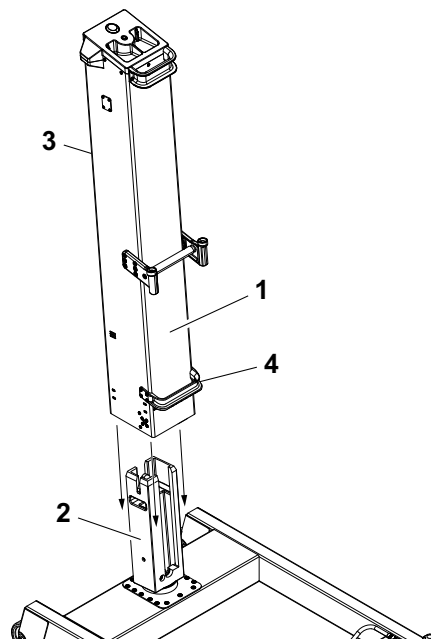

Figure 3-8. Mast to Base Installation (FT70)
4. **FT70** - (See Figure 3-8.) Next install the mast (1) over the mast mount (stump) (2).